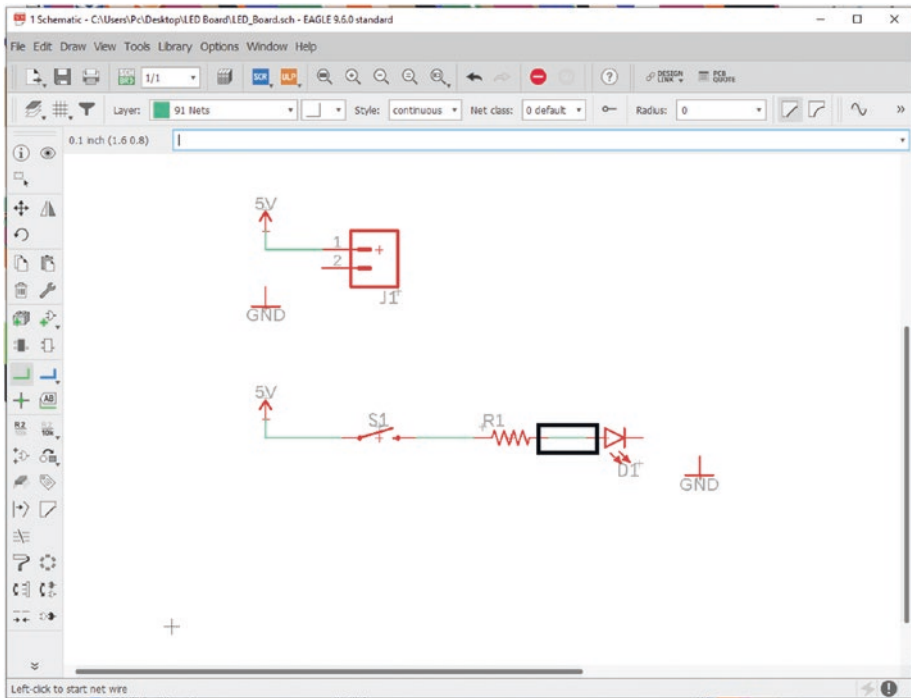

Figure 5-46. Connect the left side of R1 to the right side of D1
34. Connect the right side of the resistor symbol to the anode (left side) of the LED symbol. See Figure 5-46.